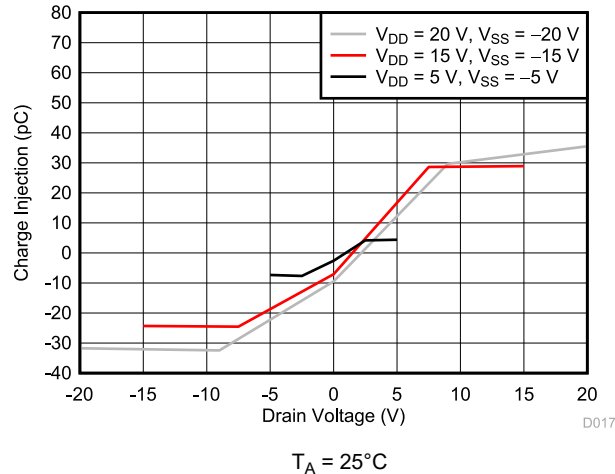

図 9-3. Charge Injection vs Drain Voltage
The low on and off leakage currents of TMUX7208M and ultra-low charge injection performance make this device ideal for implementing high precision industrial systems. The TMUX7208M contains specialized architecture to reduce charge injection on the drain side (D) (see セクション 8.3.7 for more details). 図 9-3 shows the plot for the charge injection versus source voltage for the TMUX7208M.